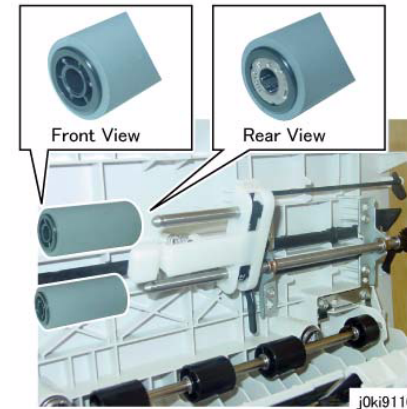

Figure 5 Nudger/Feed Roll Alignment
- Install the Nudger/Feed Roll while aligning them as shown in the figure. (Figure 5)